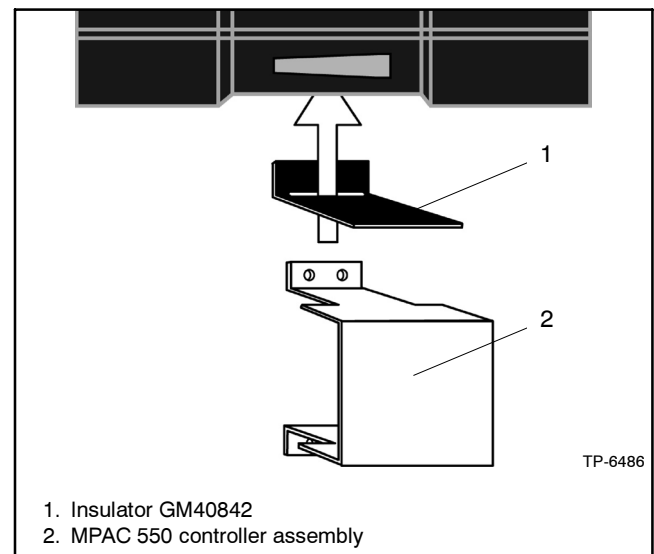

Figure 2-33 Installing Insulator, Type 1 Enclosures Only
1. For Type 1 enclosures only, install the insulator over the top mounting foot of the MPAC 550 controller. Refer to Figure 2-33.